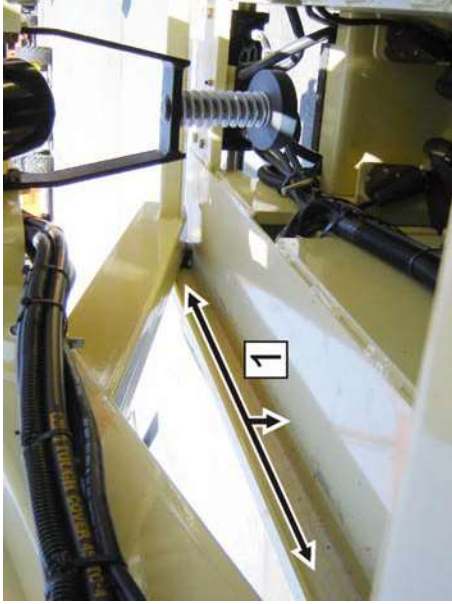

Figure 6-2. Lower Slide Pad Channel
2. Locate the Lower and Upper Slide Pads and remove all dirt and debris from the slide channel area (1, 2). Refer to Figure 6-2., Lower Slide Pad Channel.
3. Apply a layer of grease along the inside and bottom of the lower slide channel (1) on both sides of the machine. Refer to Figure 6-2., Lower Slide Pad Channel.